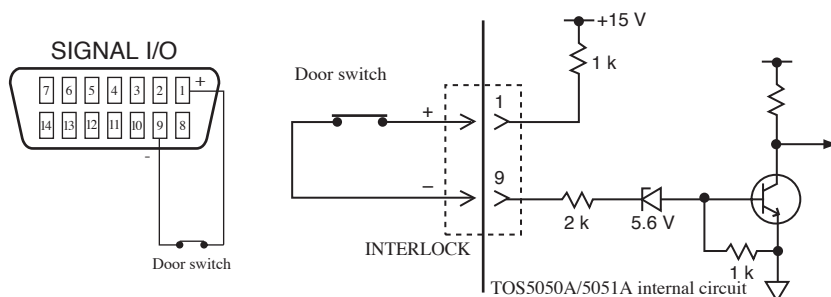

Fig. 6-3 Circuit diagram of the interlock input section
- The Interlock signal input pin assignments are different from the old model TOS5050/5051. Therefore, the 14-pin Amphenol plug that is supplied with the tester cannot be shared between the new and old models. See Table 6-2 and Fig. 6-3.